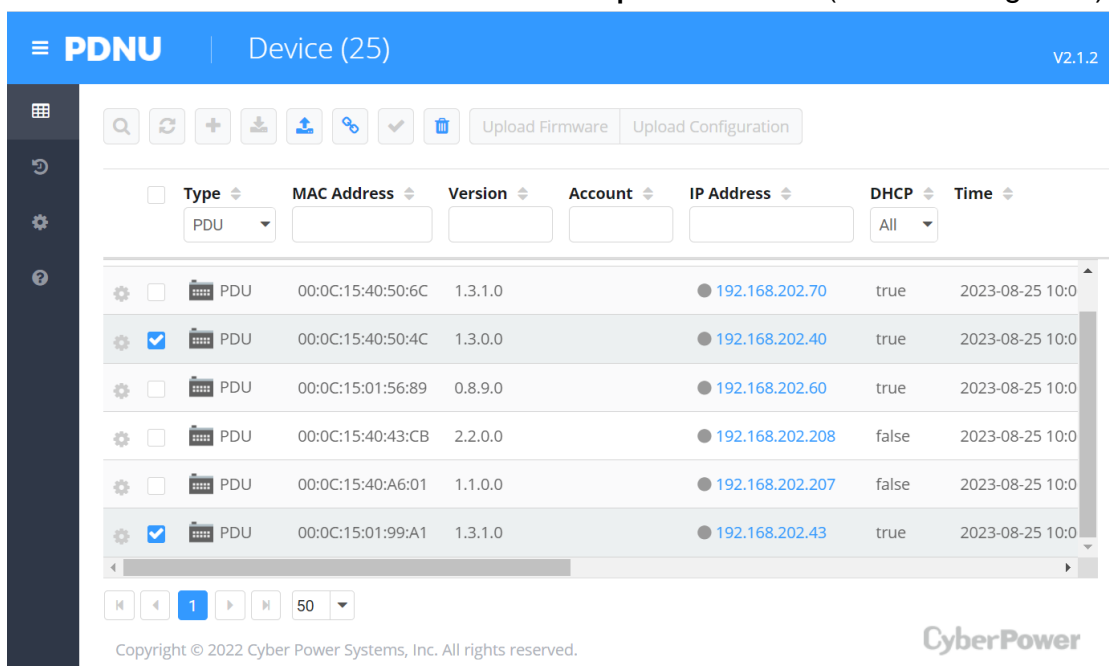

Figure 2
4. Check the checkbox to select devices listed in the **Operation View** (Shown in Figure 2).